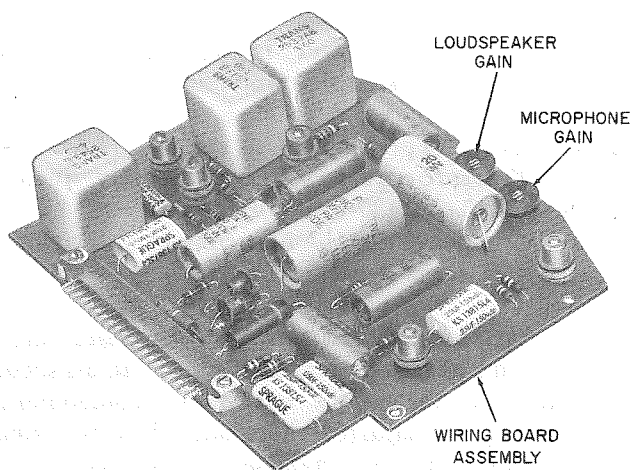

Fig. 4—Amplifier Gain Controls
- (2) Turn microphone and loudspeaker gain controls (Fig. 4) fully counterclockwise (minimum gain).
- (3) Connect 1013A hand test set with switch in TALK position to terminals 2R and 2T on the 51A control unit.
- (4) Turn loudspeaker gain control clockwise 1/4 turn.
- (5) Turn microphone gain control slowly clockwise until feedback occurs in the test set and then counterclockwise until feedback just stops.
- (6) Make final check of interphone and door answering feature as follows.